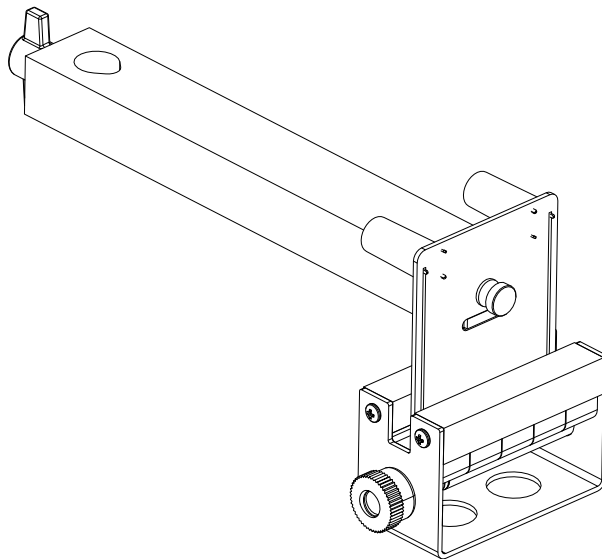

Figure 1: Setup of the magnet holder, wire board holder, and a wire board. Mounting rod, base, and scale not pictured.
3. Remove the small thumbscrew from the other side of the wire board holder, then place one of the wire boards at this end of the holder, with the banana plug ports facing towards the holder. Align the hole in the holder with the hole in the wire board, then re-insert the thumbscrew and secure the board in place, as shown in Figure 1.
5. Position the scale in front of the wire board holder so that the lower edge of the wire board extends into the groove on the magnet holder, as shown in Figure 1. The top of the magnet holder should be aligned with the line labeled "Top of magnet" on the wire board.